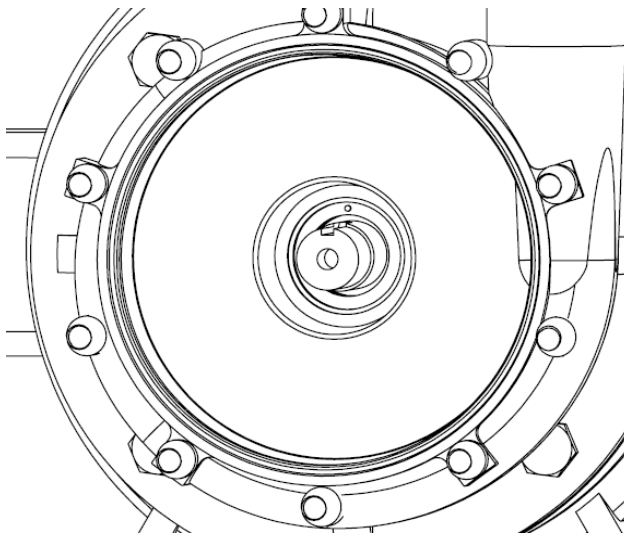

Figure 12
4. Rotate the motor shaft so the keyway is on top (at the 12:00 position) so that the key way is inline with the seal pin. Figure 12.